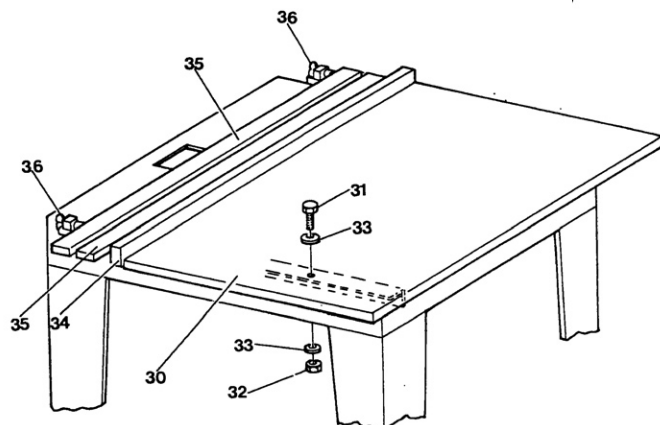

Fig. 13
The work table (30) should be positioned by means of means of the screws (31) TE M8x35 and the relative nuts (32) and washers (33) (see fig. 13) and afterwards:
- 1) Insert the perpendicular supporting bar (34) 60mm wide.
- 2) Insert 2 rods (35) behind the supporting bar, 60mm wide.
- 3) Fix them to work table by means of the wing nuts (36).